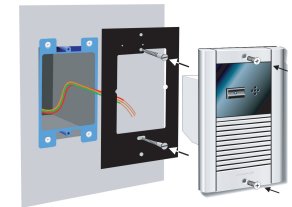

Figure 9
4. **Gang-box only:** Attach the interface bracket to the gang-box using screws (not supplied) (see Figure 9).